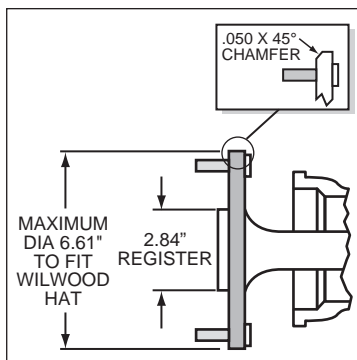

Figure 3. Axle Flange Maximum Dimension
- Axle center register diameter is 2.84", Figure 3. This kit uses Wilwood's removable center register adapters. Rotors can either be centered on the axle register, i.e. *register-centric* or centered on the wheel studs, i.e. *stud-centric*. Due to variations in wheel stud final diameters, *register-centric* centering can be a more accurate method of centering the rotor to the axle. Wilwood offers various diameter adapters for purchase in addition to the ones supplied in this kit, see Table 1.
- Maximum axle flange diameter must be no larger than 6.61" w/.050" x 45° chamfer, Figure 3.